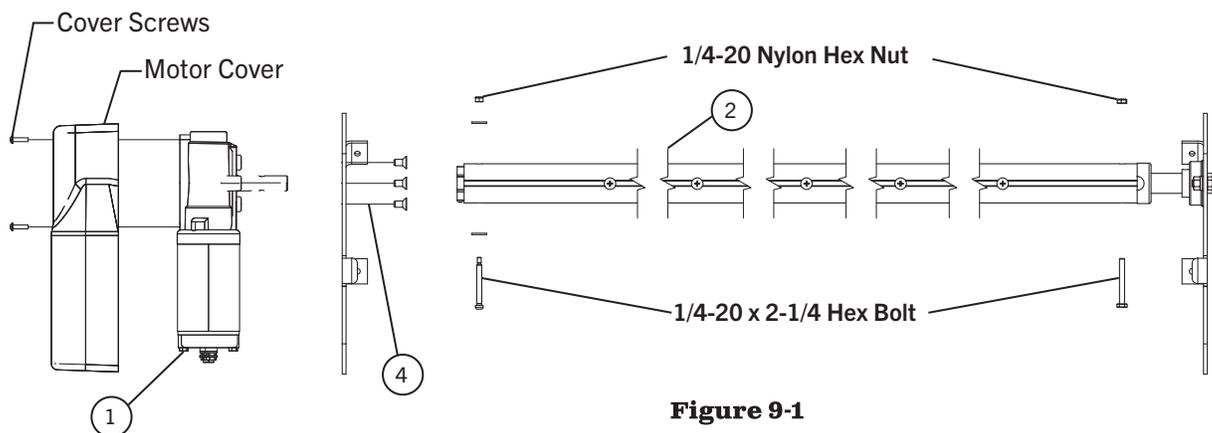

Figure 9-1
- Figure 9-1.** Fasten motor RA/SWB (1) to the end plate of tarp housing with three 5/16-18 x 7/8 FHCS (3).
- Figure 9-1.** Unbolt and remove the shaft from end of fixed electric roll up bar (1).
- One end does not have a shaft. Remove the nut and bolt from that end. Insert end onto shaft of motor RA/SWB (1), line up hole in roll up tube with hole in motor shaft, and with previously removed nut and bolt secure roll up bar to shaft.
- On the opposite end line up the fixed electric roll up bar (2) with the bearing and insert shaft through the bearing.